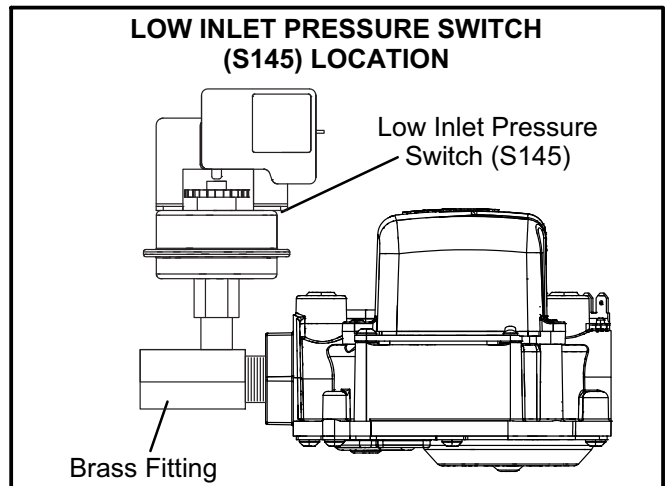
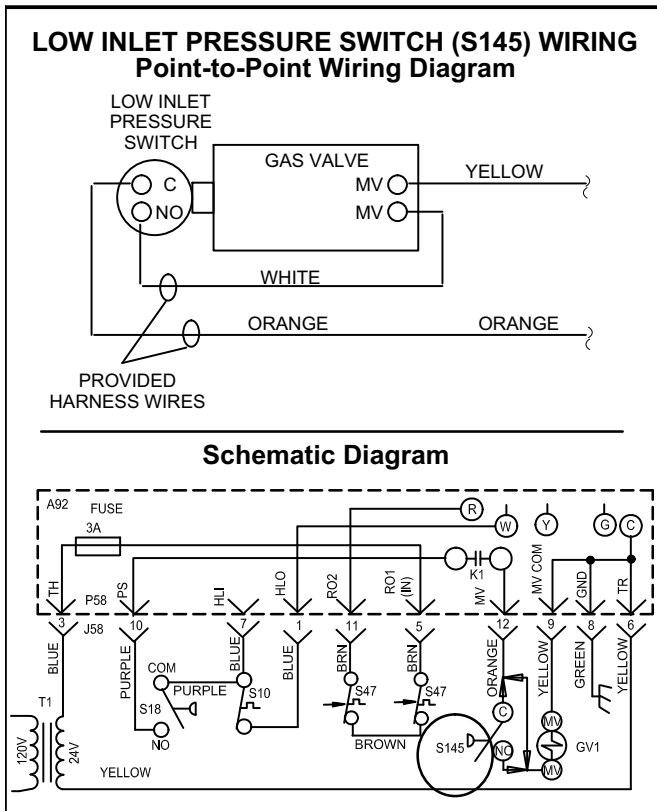

FIGURE 4
FIGURE 5
- 2 - Remove the heating compartment access panel. Turn the automatic gas valve switch to the **OFF** position. See figures 4 and 7.
- a - Attach provided brass fitting to gas valve inlet. Install the low inlet pressure switch (S145) to the brass fitting. See figure 4. Wire as shown in figure 5.
- b - Re-install the manifold/valve assembly. Connect the two wires to the gas valve as shown in figure 5.
- 9 - Re-install the manifold/valve assembly. Connect the two wires to the gas valve as shown in figure 5.